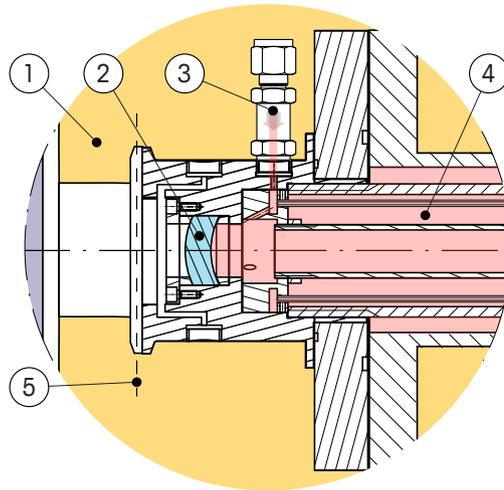

Figure 52 The GPro™ 500 Interface between Zone 0 and Zone 1
- 8 For detailed cross section view – see Figure 52 (The GPro™ 500 Interface between Zone 0 and Zone 1) on page no 77